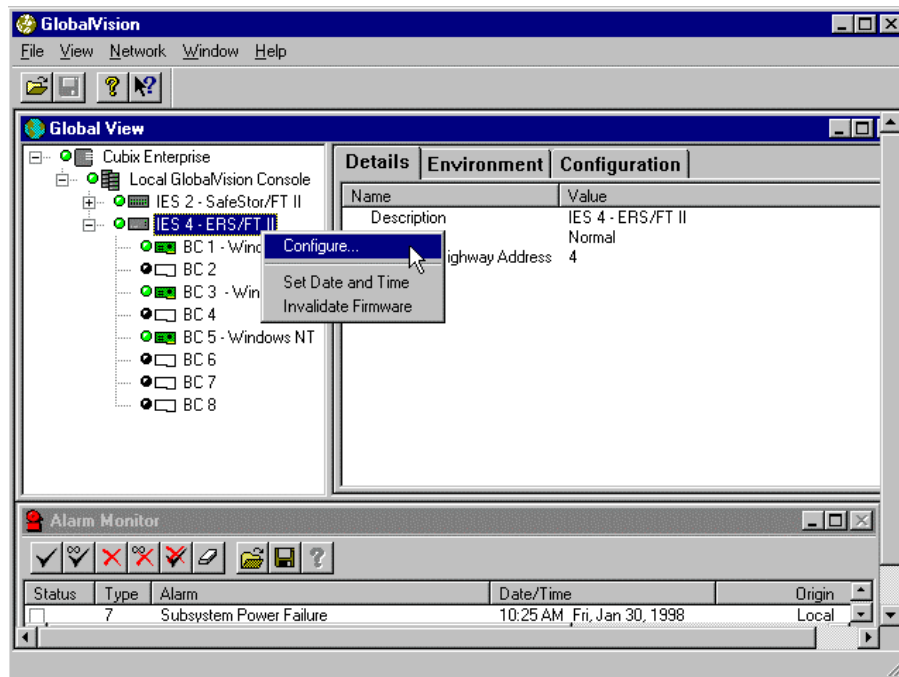

Figure 115 - ERS/FTII (or DENSITY) Chassis controls
3. Click on the **Configure** menu item. See Figure 115.